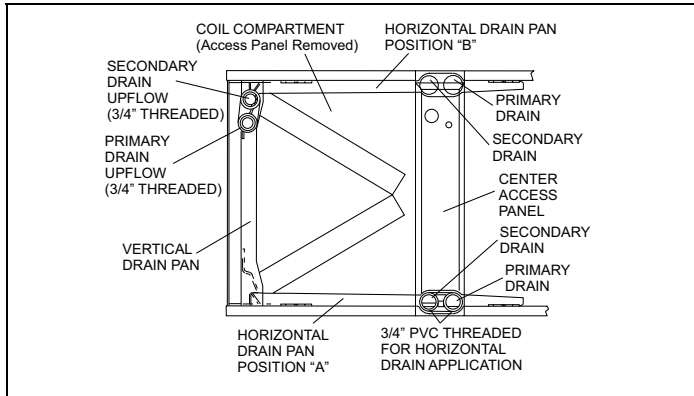

FIGURE 9: Horizontal Drain Pan
2. Remove the new orifice from the packet and verify that it is the correct number required. Install this orifice with the rounded end toward the coil and the flat end outward per Figure 9.
NOTE: If this step is overlooked, it can lead to a water problem later. Position horizontal pan, as required in either "A" or "B" position as shown in Figure 9, locking it into the vertical drain pan as shown.